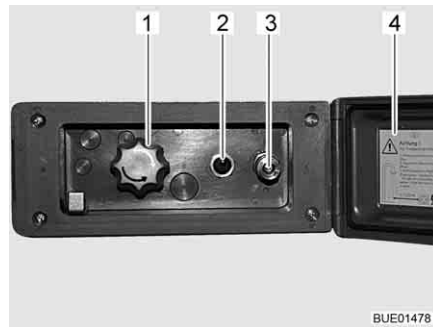

Fig. 120 External shower connection point
- Unlock and open the cover (Fig. 120,4).
- Attach hose of the external shower to the quick closure (Fig. 120,3).
- Switch on the water pump using the switch (Fig. 120,2).
- Adjust the water temperature with the rotary knob (Fig. 120,1) as desired.
- Switch off the water pump using the switch (Fig. 120,2).
- Close the cover (Fig. 120,4) and lock with key.
- Turn knob (Fig. 120,1) to the centre position.